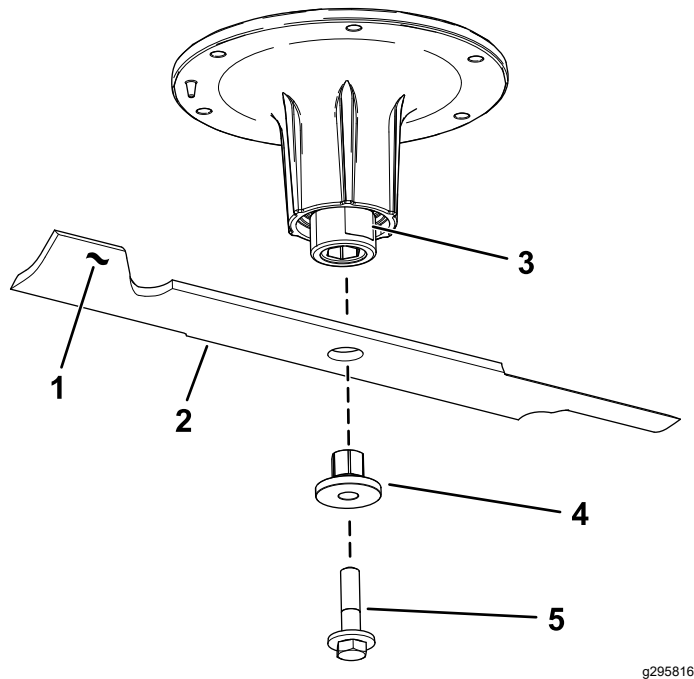

Figure 92
2. Remove the blade bolt, bushing, and blade from the spindle shaft (Figure 92).